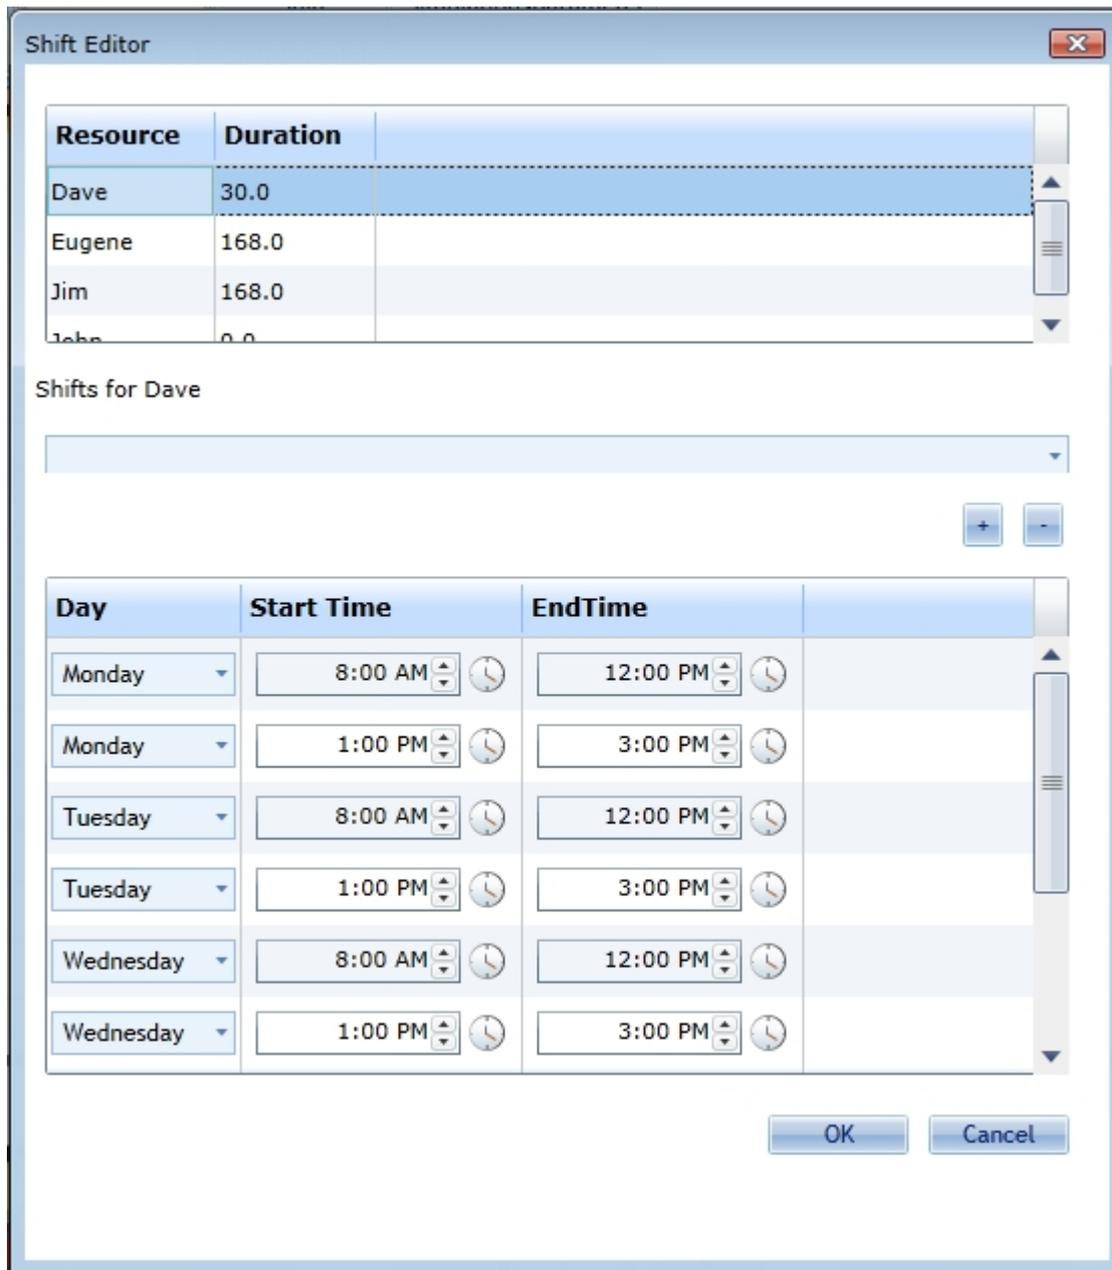

Figure 3: Shift editor for resources (30 hours with lunch break preset)
- You can interrupt a day's working time for a break like depicted in figure 3.